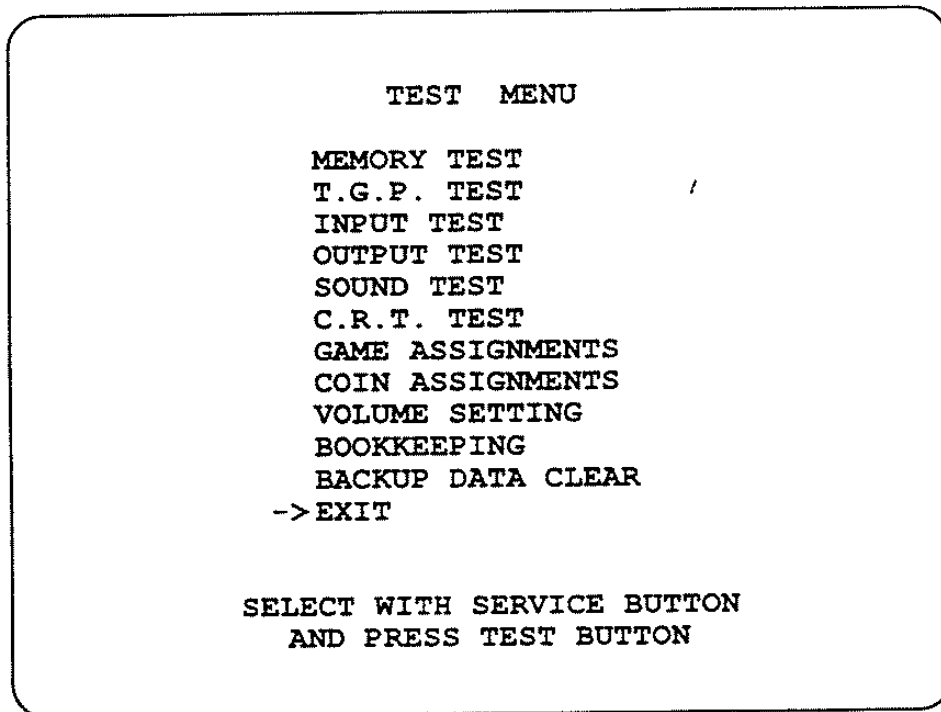

FIG. 8.2 TEST MENU
- Press the TEST BUTTON to cause the following Test Menu to be displayed on the monitor. (FIG. 8.2)
- Press the SERVICE BUTTON or VIEW CHANGE BUTTON (VR) until the pointer "->" is moved to the desired item to make a selection.